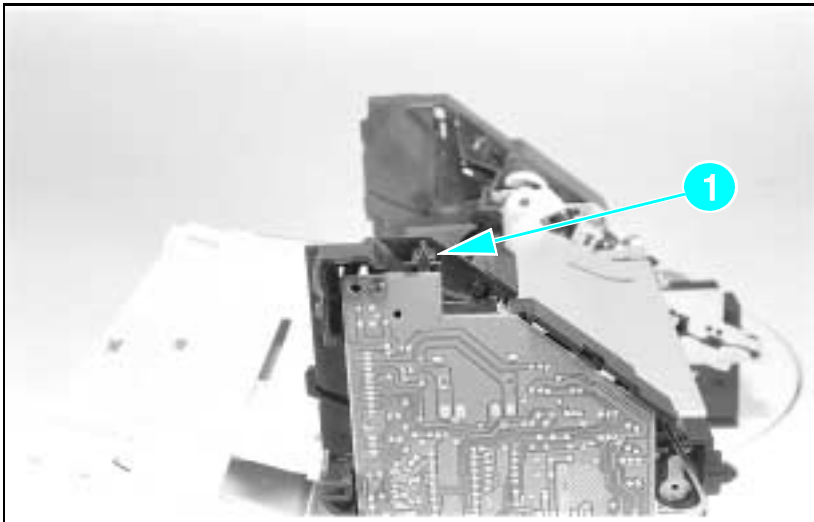

Figure 7-2 **Location of the Top Cover Closed (SW601) Actuator**
With the top cover open, check that the switch actuator does engage the switch.	Use a slim object to manually engage SW601. Listen for a definite "click" as the switch is engaged (see Figures 7-2 and 7-14).
- 4 If the messages do not occur, check the switch actuator (see Figure 7-2, callout 1) on the top cover, and check that the plunger that covers the switch is in place (see also Figure 7-14 for switch locations).